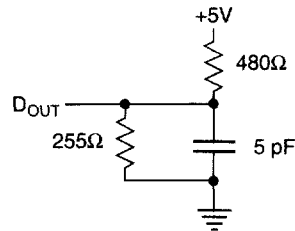

Figure 2. Output Load Equivalent
5. The parameter is tested with $C_L = 5$ pF as shown in Figure 2. Transition is measured ± 200 mV from steady state voltage